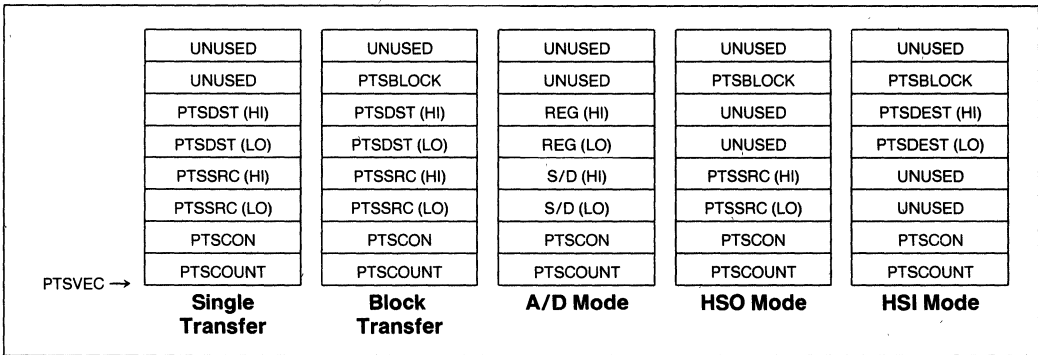
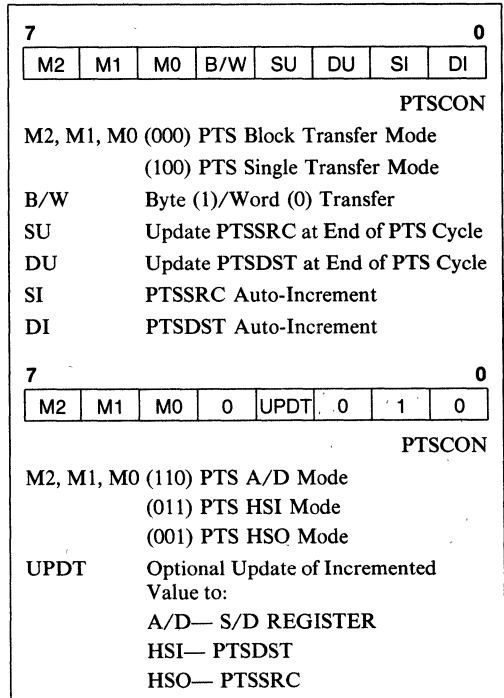

Figure 6-3. PTS Control Blocks
Figure 6-6. PTS Control Register Format
The PTS vector table is composed of 15 words at locations 2040H–205CH as shown in Figure 6-2. The PTS vector table has the same format as the Interrupt vector table and the same priority scheme (14 highest, 0 lowest). All PTS channels have higher priority over any interrupts except NMI. Each PTS vector points to a PTS Control Block (PTSCB) which must reside in the internal RAM space (1AH–1FFH) at an address evenly divisible by 8. Figure 6-3 gives the format of the PTSCB for the 5 PTS modes. Unused bytes in the PTSCBs can be used as normal RAM locations. The PTSCB must be initialized by the user before the PTS channel is enabled. The function of each register is discussed in the next few sections.
In the Single Transfer Mode, the PTSCB (Figure 6-3) contains control (PTSCON), source (PTSSRC), destination (PTSDST), and count (PTSCOUNT) registers. A single transfer may be a byte or word and the PTSSRC and PTSDST may be optionally incremented at the end of the PTS cycle (see PTSCON in Figure 6-6). The registers increment by 1 for a byte transfer or by 2 for a word transfer. In the single transfer mode, both the auto-increment (SI, DI) and update bits (SU, DU) must be set if either PTSSRC or PTSDST are to be incremented.
This same task can easily be accomplished using the PTS channel associated with the TI interrupt with much less CPU overhead. The PTS channel is set up to do a single byte transfer on every TI PTS request. The PTSDST register always points to SBUF and does not increment. The PTSSRC register points to the beginning of the block of memory and is set up to increment every PTS cycle. The code to set up the PTS channel and the End-of-PTS interrupt is shown in Figure 6-6. It takes 64 state times to set up the PTS channel, 21 state times to transfer each byte, and 54 state times for the End-of-PTS interrupt for a grand total of 2721 state times (64 + 127 (21) + 54). This reduces the software overhead of this task by 75% compared to an Interrupt Service Routine.
For a PTS Block Transfer, the PTSCB (Figure 6-3) contains all the same registers as the Single Transfer Mode with the addition of a block count (PTSBLOCK) register. The PTSCON also retains the same format as the Single Transfer Mode (see Figure 6-6).